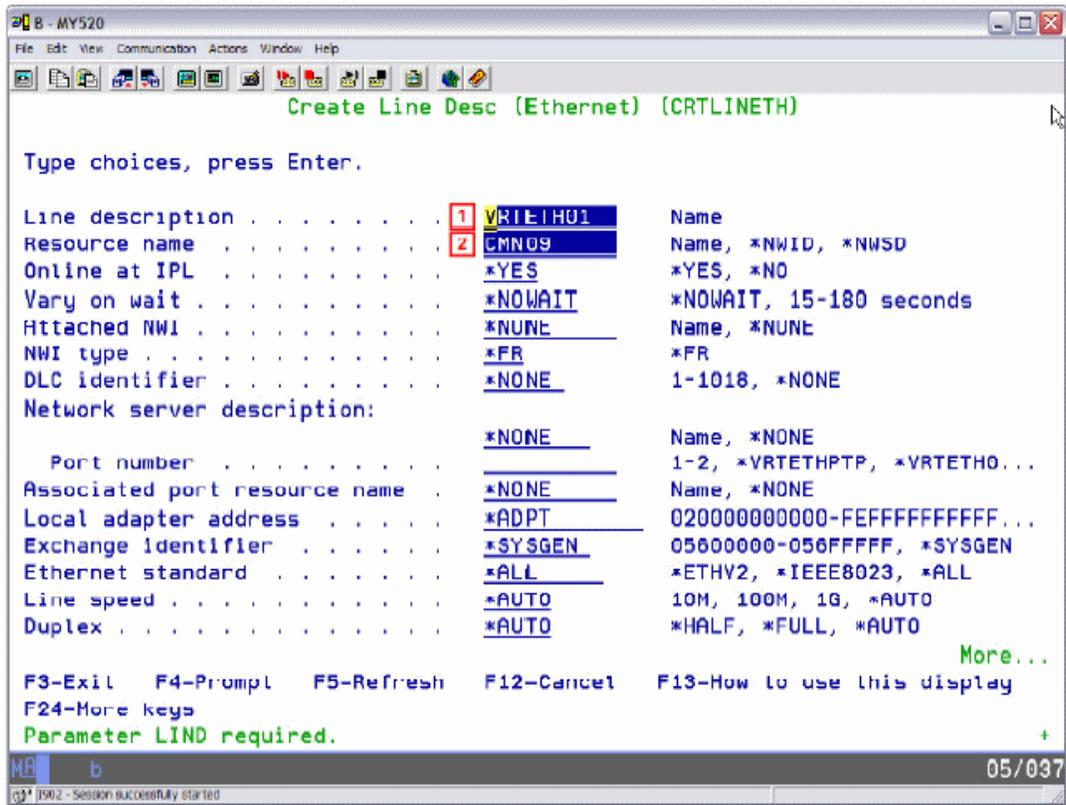

Figure 13-21 Create Ethernet Line Description
2. Use the **CRTLINETH** command to create the Ethernet line descriptor. See Figure 13-21.